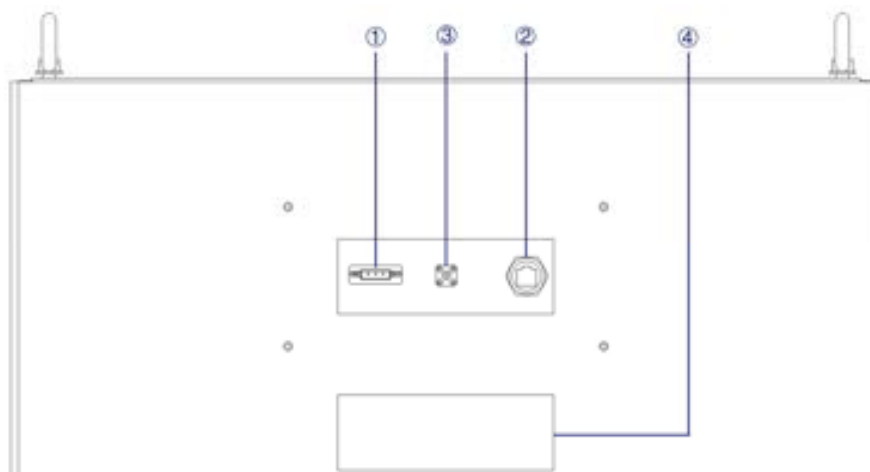

Figure 1-8 Rear panel
The LAN interface located on the rear panel is used for remote control of the equipment (Figure 1-8②).